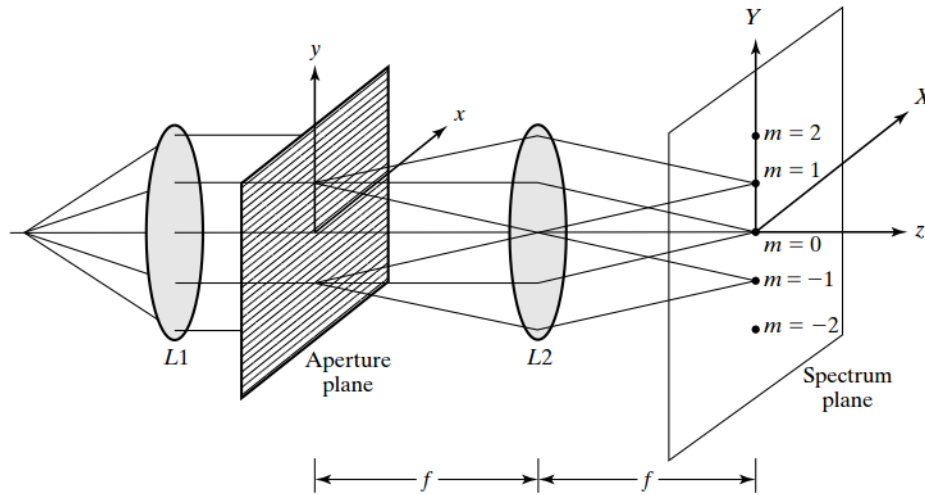

Fig. 2. Fraunhofer diffraction of a Ronchi ruling.
The Fraunhofer diffraction pattern of a given aperture is most conveniently displayed using a positive lens, as in Figure 2. Light from a monochromatic (temporally coherent) point source (spatially coherent) is collimated by lens L1 and illuminates, in the input or aperture plane, a two-dimensional pattern whose transmittance varies across the aperture. Lens L2 forms the Fraunhofer pattern in the spectrum plane.
**Example:** Consider a Ronchi ruling with slits of width 0.1 mm illuminated by light of wavelength 488 nm. A lens of focal length 40 cm is used in a configuration like that shown in Figure 2.